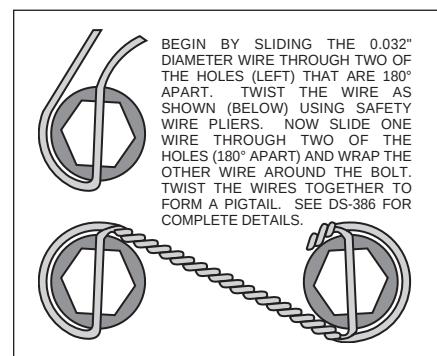

Figure 2. Safety Wire Diagram
- **NOTE:** When cross-drilled bolts are supplied with the rotor bolt kits, the additional step of safety wiring bolts is recommended. Safety wire bolts using standard 0.032 inch diameter stainless steel safety wire as shown in figure 2. Refer to Wilwood's data sheet DS-386 (available at www.wilwood.com/Pdf/DataSheets/ds386.pdf) for complete safety wire installation instructions.